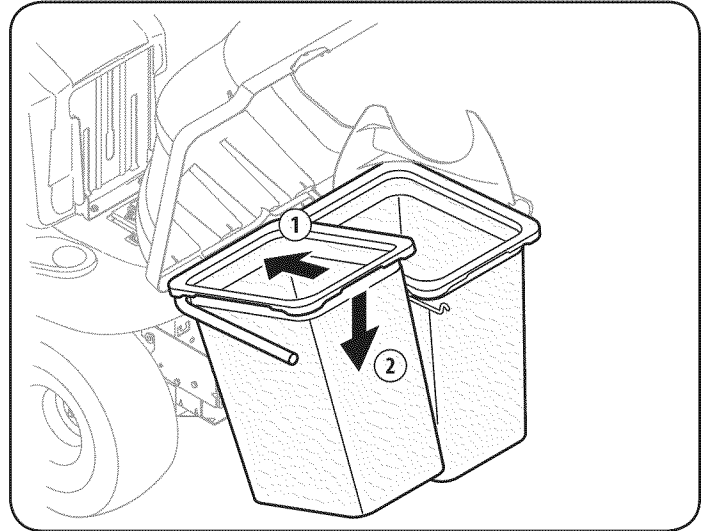

Figure 15
7. Install both grass bags onto the bag support assembly by inserting the front edge in first (1), as seen in Figure 15, and setting the back edge down (2) until it fits into the assembly.